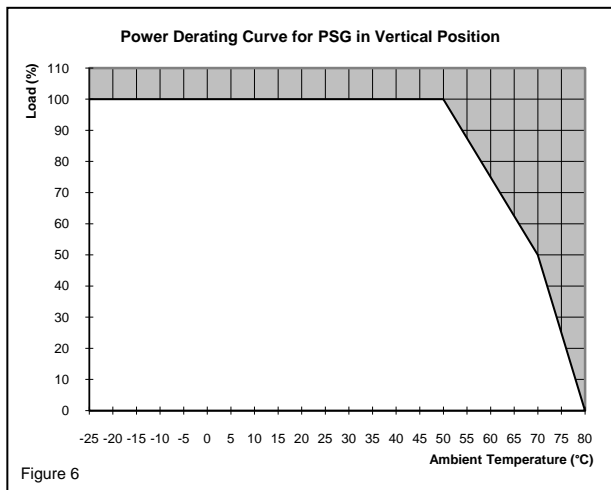

Figure 6
5.4. Thermal behavior (Fig. 6)
Operating temperature (surrounding air temperature)	-25°C to +80°C (Refer to Fig. 6)